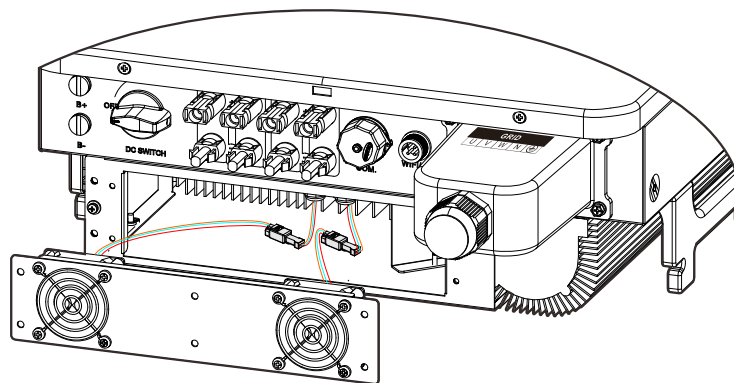

Figure5-2 Disconnect the connector
- Step 6 Disconnect the connector connected with fan, as shown in Figure5-2.